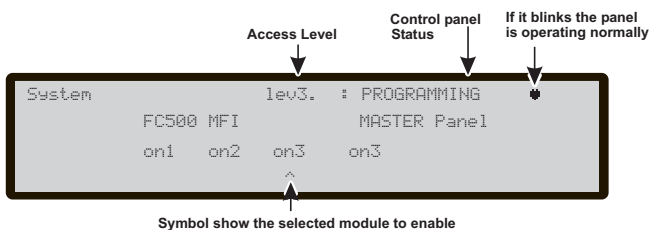

Figure 48 Display to enable the FC500MFI module
- 2- the Display of Figure 48 will be shown;